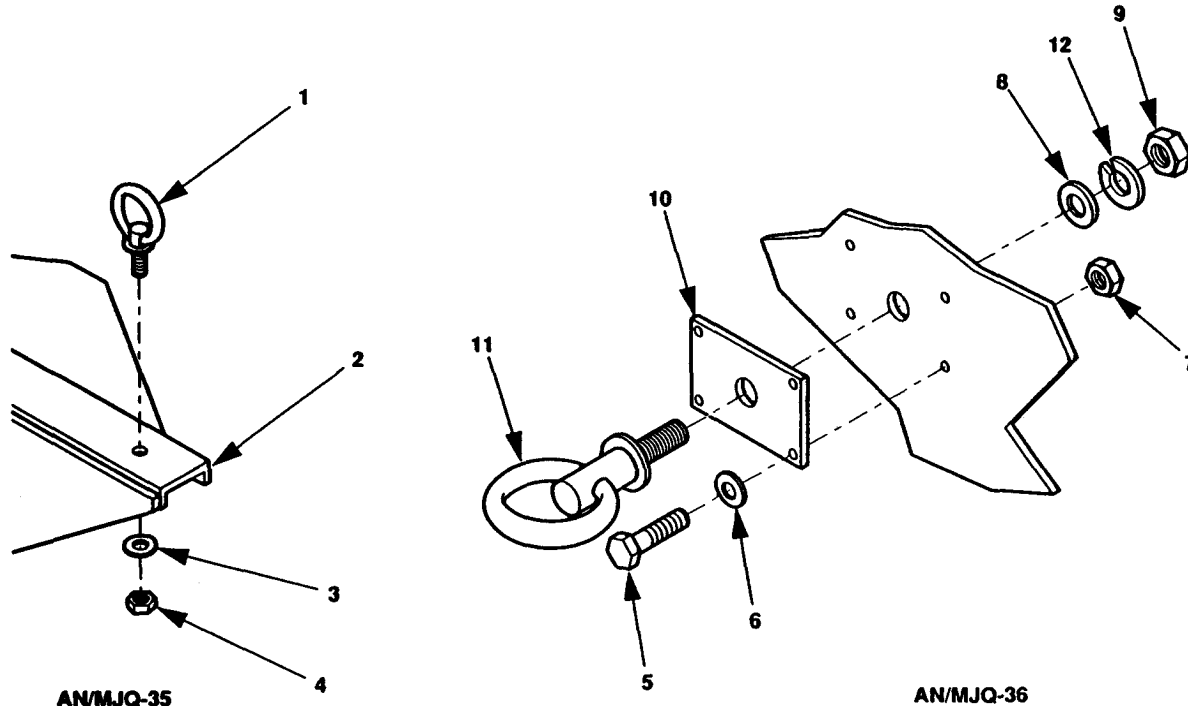

Figure 4-21. Replace Trailer Lifting Ring.
1. Remove nut (4, figure 4-21), flat washer (3) and lifting ring (1) from lifting bracket (2); AN/MJQ-35 only.